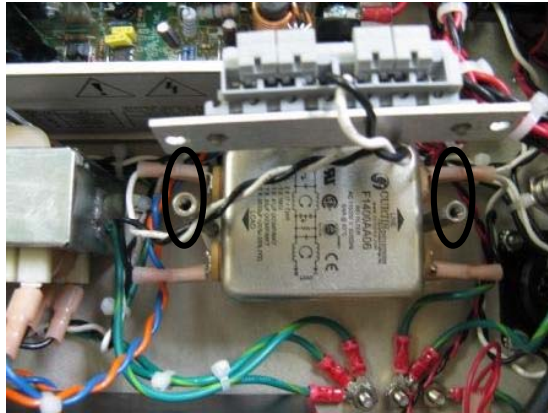

Figure 6
- 7) Using a ¼" nut driver remove the (2) standoffs that secure the RFI filter to the studs in the chassis. Then remove the RFI Filter. Fig. 6